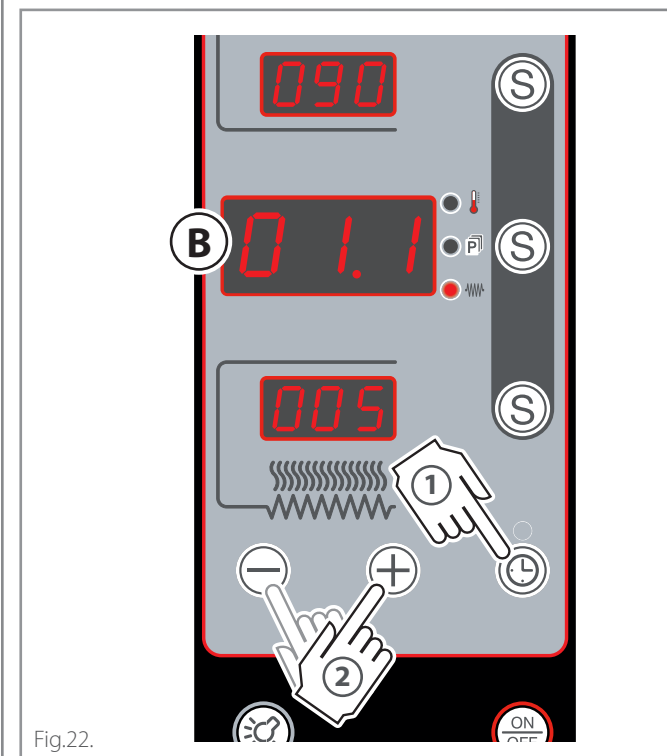

Fig.22.
► Fig.22.
- 2 Set the desired time using the "+" or "-" keys. The display (B) shows after how much time the buzzer will go off (e.g. 01.1 that is 1 minute and ten seconds).